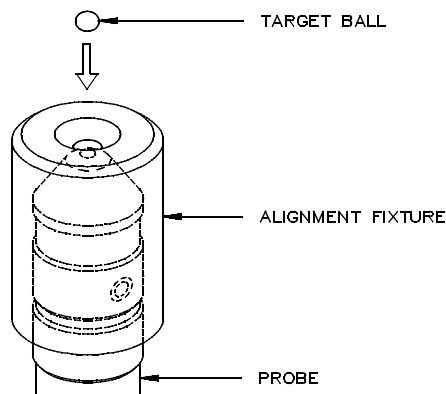

Figure 2-1: Alignment of Target Ball in Fixture on Probe
3. Select the target ball that you will be using in subsequent measurements, along with the *Red Labelled Alignment Fixture* for that ball size. The fixture centers the target ball on the probe tip. Place the ball on top of the fixture. Place the fixture over the tip of the probe and slide it down until it stops, as shown in Figure 2-1.